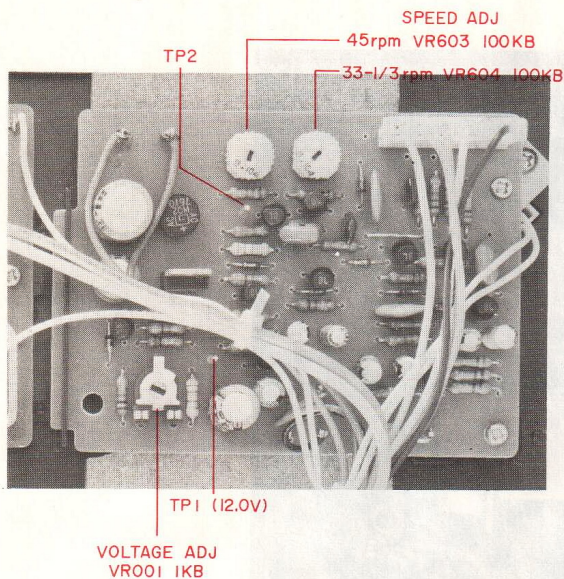

Fig. 3 Control P.C Board
#### ADJUSTMENT (Refer to Fig. 3)
#### (Refer to Figs. 3 and 4)
- 2) Observe Row 1 revolutions of Strobe markings. Adjust VR604 100 k $\Omega$  (Fig. 3) until Row 1 Strobe markings appear to come to a stand-still.
- 4) Observe Row 2 revolutions of Strobe markings. Adjust VR603 100 k $\Omega$  (Fig. 3) until Row 2 Strobe markings appear to come to a stand-still.
- 2) Observe Row 3 revolutions of Strobe markings. Adjust VR604 100 k $\Omega$  (Fig. 3) until Row 3 Strobe markings appear to come to a stand-still.
- 4) Observe Row 4 revolutions of Strobe markings. Adjust VR603 100 k $\Omega$  (Fig. 3) until Row 4 Strobe markings appear to come to a stand-still.